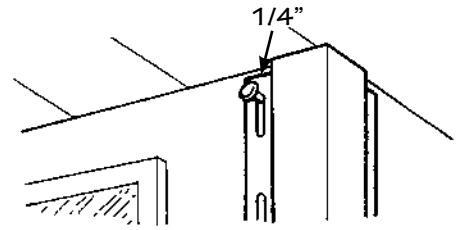

Figure 52.
- Place the first nails in the uppermost end of the top nail slots to hold them in position (Fig. 52). Place all other nails in the center of the slots. Nails should be 8" to 12" (203mm to 305mm) apart.